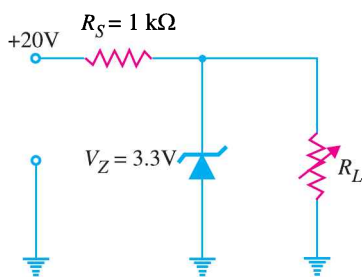

Fig. 17.32
2. The zener diode in Fig. 17.32 has values of $I_{Z(\min)} = 3$ mA and $I_{Z(\max)} = 100$ mA. What is the minimum allowable value of R_L ? [241 Ω]